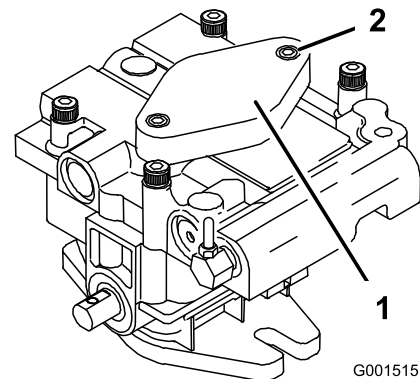

Figure 62
7. To prime the charge pump, loosen two hex socket head capscrews (Figure 62) 1-1/2 turns only. Make sure engine is not running. Lift charge pump housing upward and wait for a steady flow of oil to flow out from under housing. Retighten capscrews. Do this for both pumps.